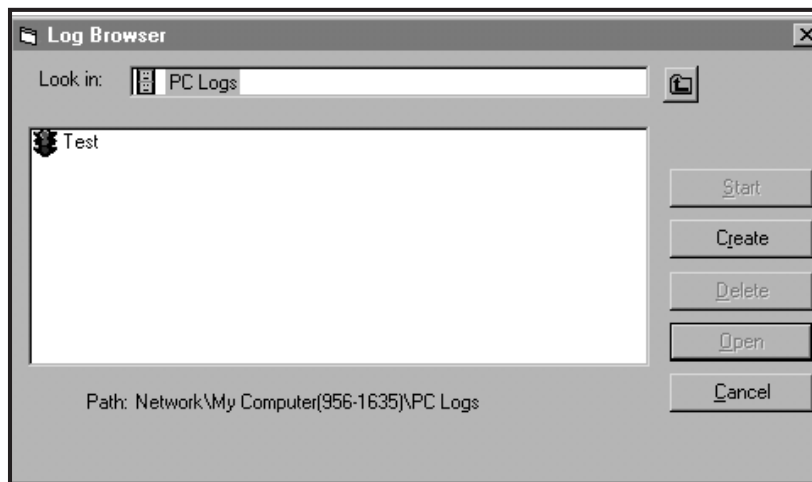

Figure 16: Create a PC Log
3. Double click on *PC Logs* to advance to the dialog box shown in *Figure 16*. below
4. At the dialog box shown in *Figure 16* above, click on the [Create] option button to create a new meter log.